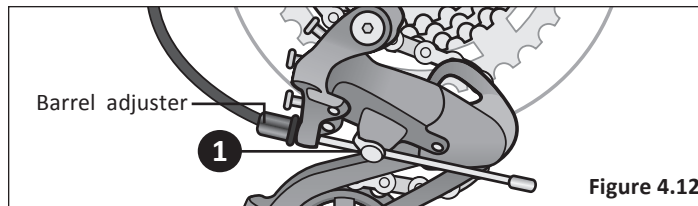

Figure 4.12
- 1** Shift the rear shifter to largest number indicated, disconnect the rear derailleur cable from the cable anchor bolt and place the chain on the smallest sprocket. **Figure 4.12**